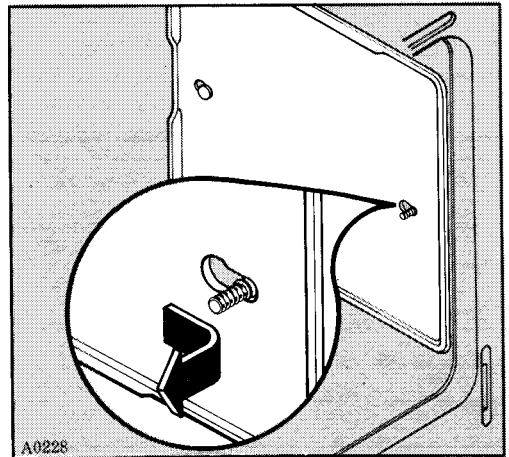

Fig. 8
3. Slide the side panels towards you to release them from their retaining pins, then lift away from the oven wall (Fig. 8).